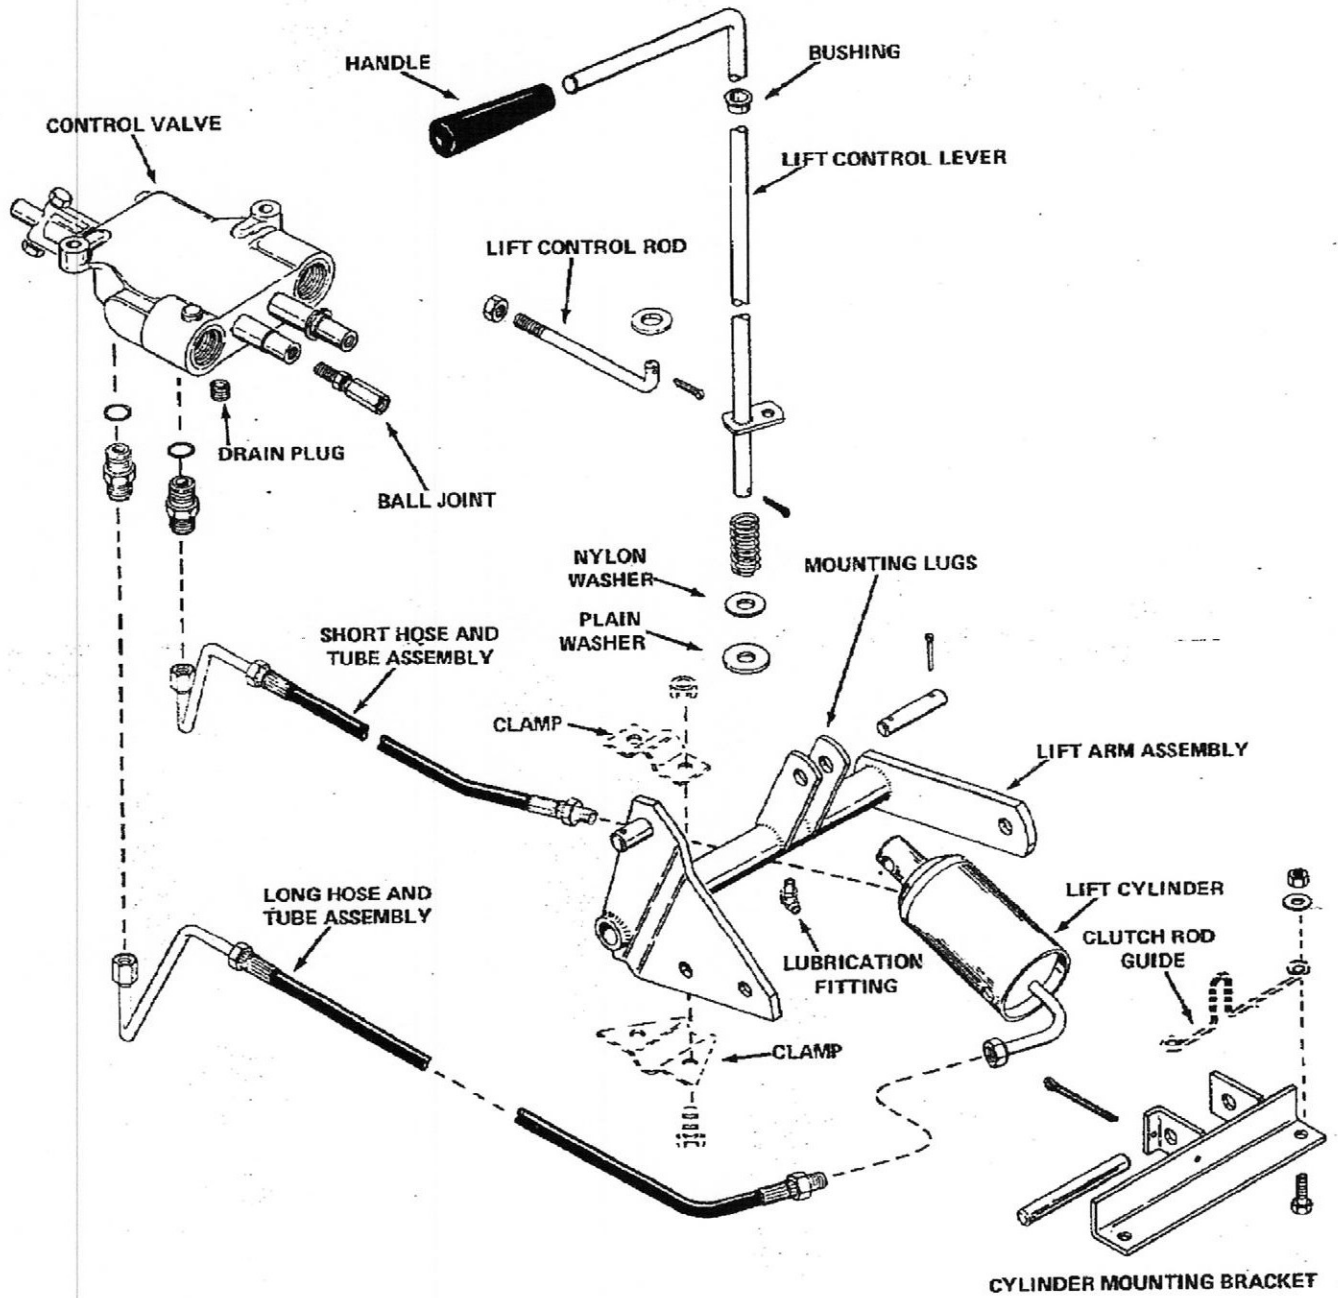

FIGURE 2. HYDRAULIC LIFT KIT ASSEMBLY
1. The components of the Hydraulic Lift Kit are identified in Figure 2 with the same description used throughout this manual.
3. Lubricate the fitting at the center of the lift lever assembly, Figure 2, every 10 hours of operation.
- B. Before installing the Hydraulic Lift Kit, lay out the components on a clean surface similar to arrangement shown in Figure 2. To simplify the original installation, all components are preassembled as far as practical.
1. Drain the hydraulic reservoir into a clean container of at least 6 quarts capacity. The drain plug is located at the bottom side of the tractor control valve. See Figure 2. Also drain fuel tank.